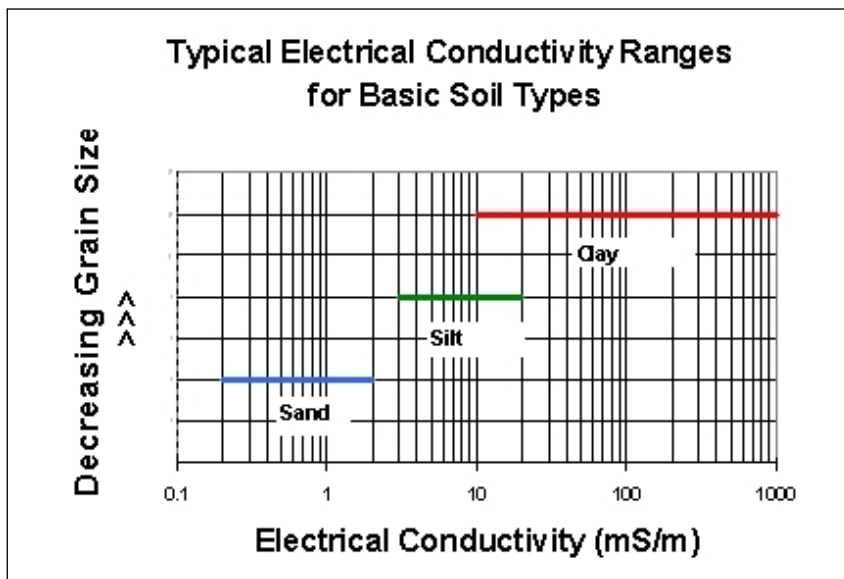

Figure 2.2: Generalized Electrical Conductivity Readings.
Interpretation of electrical conductivity (EC) logs comes with field experience. It is very important that soil core samples are taken to confirm lithologic changes as each EC log is unique per site. As a generalization, a high conductivity reading indicates a smaller grain size and a low conductivity reading indicates a larger grain size (See Fig. 2.2).